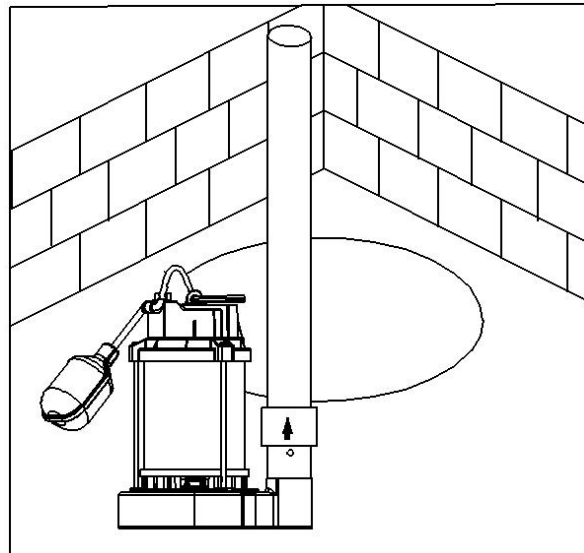

Figure 2
- 2A. Install the discharge plumbing and a check valve using Teflon tape-NOT pipe joint cement. Install the check valve in the vertical discharge pipe to prevent flow backwards through the pump when it shuts off. If the check valve does not have a 1/8 " anti-airlock hole, drill one in the discharge pipe just below the valve. Be sure to install the check valve so that the flow will be away from the pump (an arrow on the valve side will show the flow direction). (See Figure 2.)